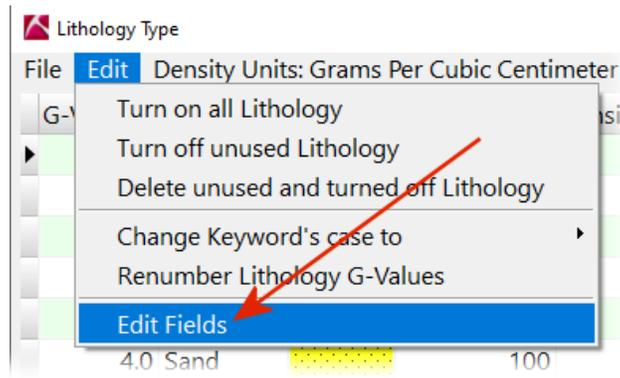

Figure 3
Step 2. Select the Edit Fields option from the Lithology Types Edit pull-down menu (Figure 3).